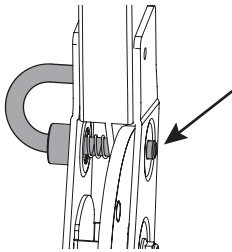

Figure 6
**NOTE:** See properly seated (fully engaged) ROPS pin (Figure 6).